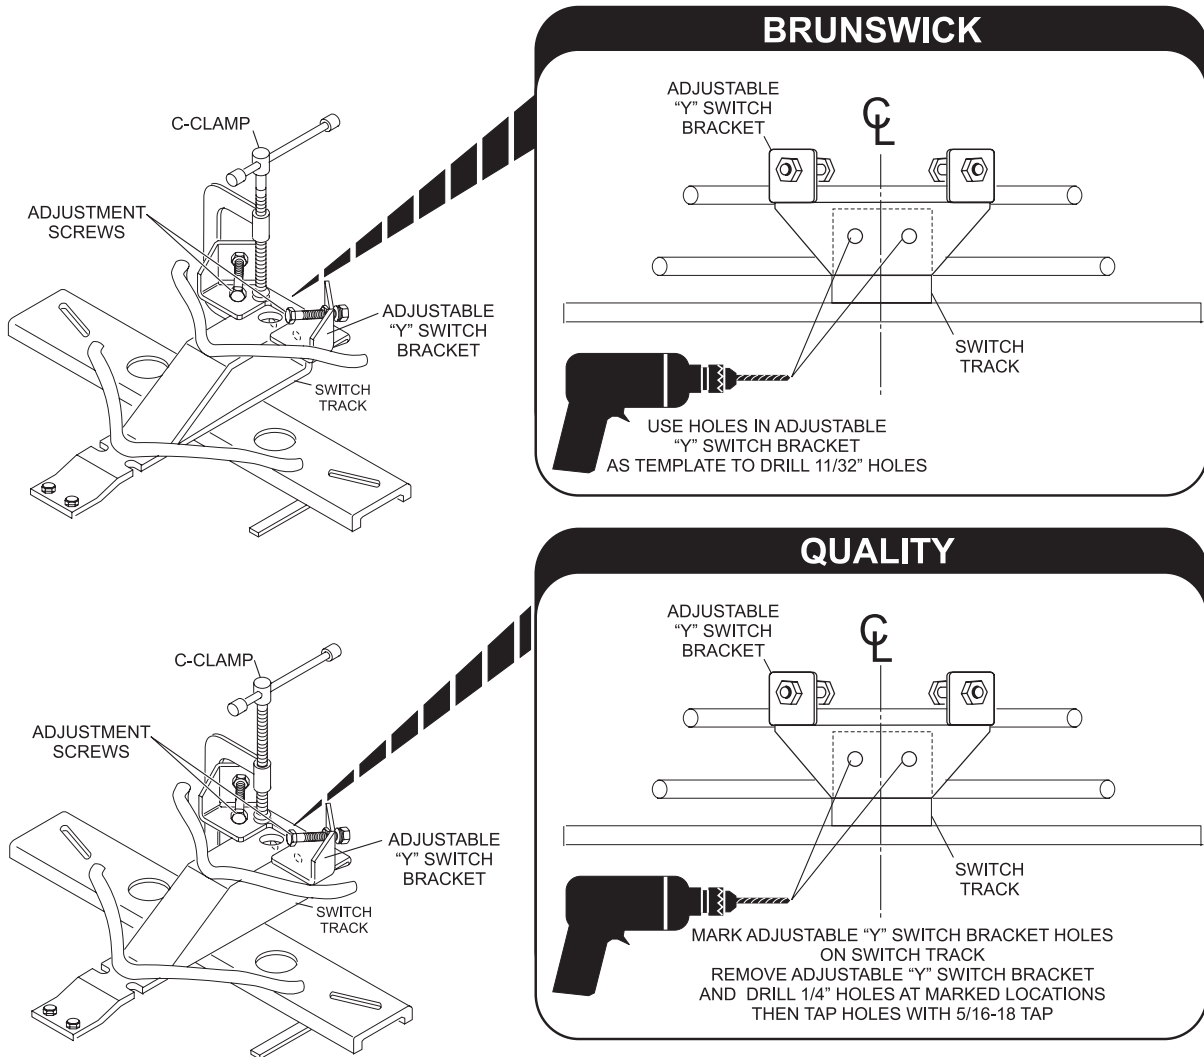

Figure 2
- Using the holes in the adjustable “Y” switch bracket, drill the 11/32” mounting holes. Refer to Figure 2.